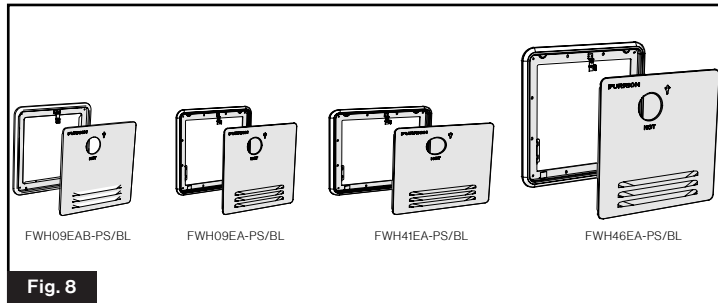

Fig. 8
2. The opening may need to be adjusted to accommodate installation requirements of Fig 2. Refer to the door assembly packaging for additional installation instructions, requirements and options for resizing the opening. (Fig. 8)